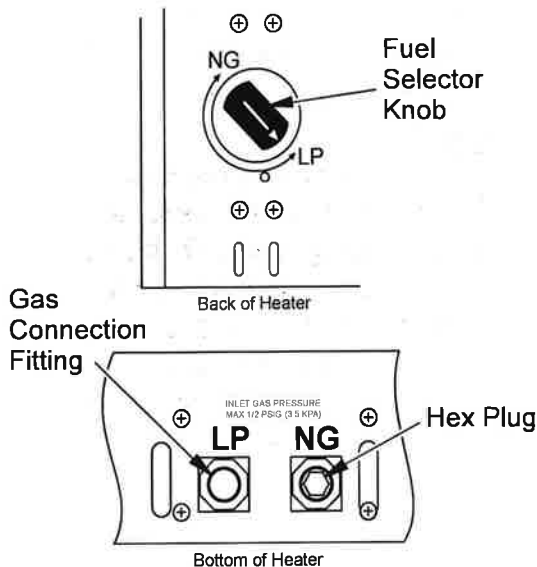

Figure 13 - Settings for Propane/LP Gas Selection
1. Remove top screw from cover plate located on back of heater (see Figure 13). Rotate to expose fuel selection device.
2. For propane gas, press in knob using a flat screwdriver with a blade the thickness of a quarter and turn knob counterclockwise until the knob locks into the LP position (see Figure 13). Fuel selection device must be locked in the LP position. Do not operate heater between locked positions.
4. Remove hex plug (with wrench provided) from propane/LP gas inlet of regulator (see Figure 13). Install hex plug into NG inlet of regulator. Install gas line into propane/LP inlet of regulator. Use thread sealant to ensure that there are no leaks.